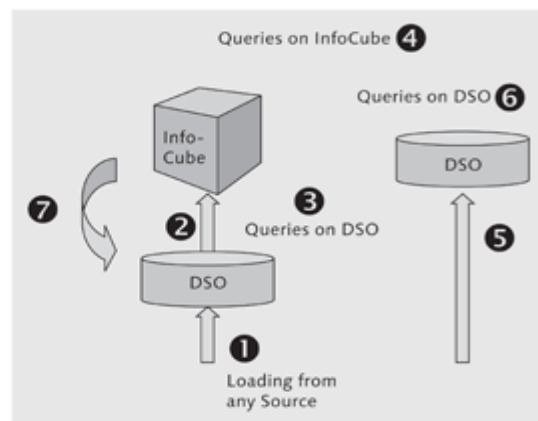

Figure 4.2 Position of DSO in SAP NetWeaver BW
Data can be loaded into DSOs from any source system, as shown in ❶ and ❺ of Figure 4.2. The data stored in a DSO is normally very detailed and is further extracted to InfoCubes where it's summarized, as shown in ❷ of Figure 4.2. A DSO that is supplying data to an InfoCube can also be an InfoProvider; that is, queries can be created on this DSO (❸). That being said, it isn't *mandatory* to extract data from DSOs to InfoCubes; if you don't, the DSO is the end of the data flow, and queries can be created based on the DSO directly (❹). And you also create queries based on an InfoCube that stores data at a summarized level (❺). Finally, SAP NetWeaver BW offers a function called *report-to-report interface* (RRI), which you can use to jump from an InfoCube query to a DSO query (❻) to view detailed level data.